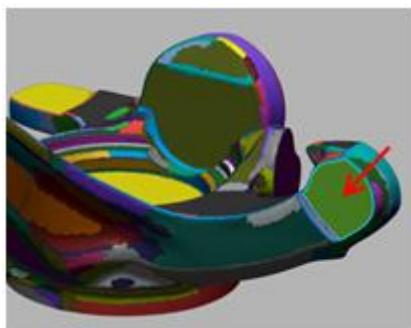

Figure 285
5. Select the region like **Figure 285**.